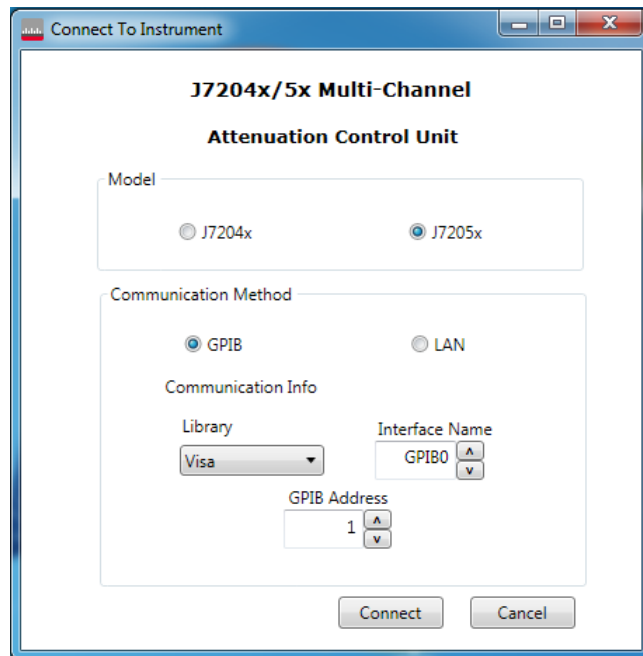

Figure 4-3 J7204/5/A/B SFP window
- Upon launching the SFP, the J7204/5/A/B SFP window will appear as shown in Figure 4-3.